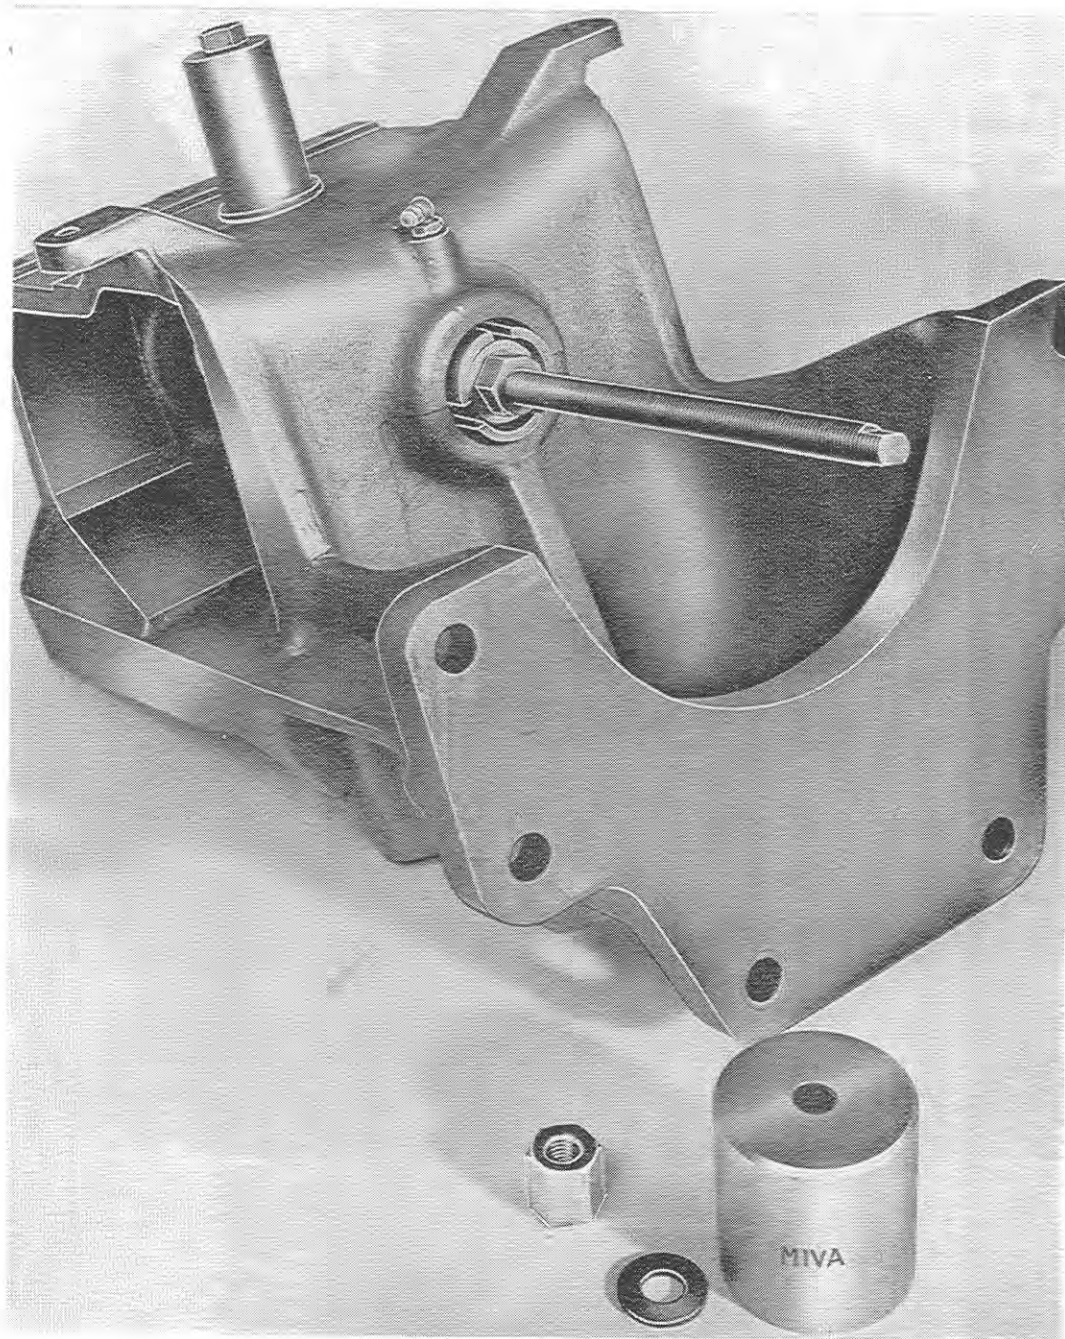

Fig. 6
- 2) Remove the front bush with tool MIVA, the cover of the tool being in contact with the exterior face of the support (Fig. 6 and 7).